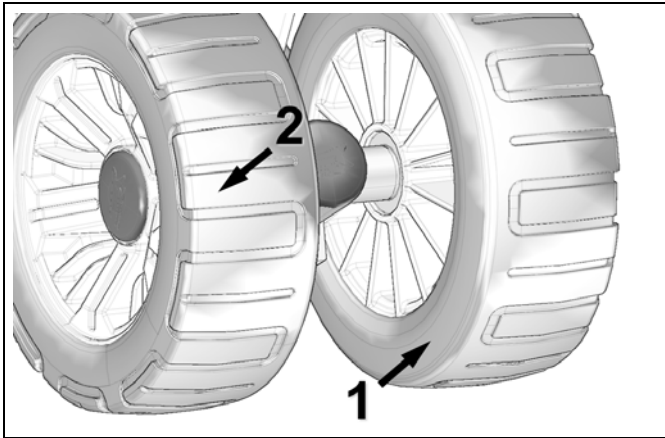

Figure 31
Verify wear on the urethane tires especially on the interior guidance strip (1) and between the tire profiles (2). The wheel must be replaced if the inner surface is worn out or the tire is cracked between the tire profiles. A wheel that is excessively worn will not offer enough support for track guidance. Refer to Figure 31.